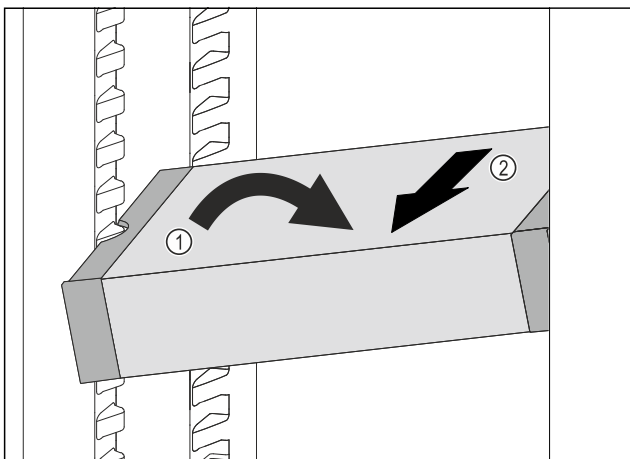

Fig. 210
- ▶ Set VarioSafe in refrigerator compartment at an angle. Fig. 210 (1)
- ▶ Take VarioSafe out to the front. Fig. 210 (2)